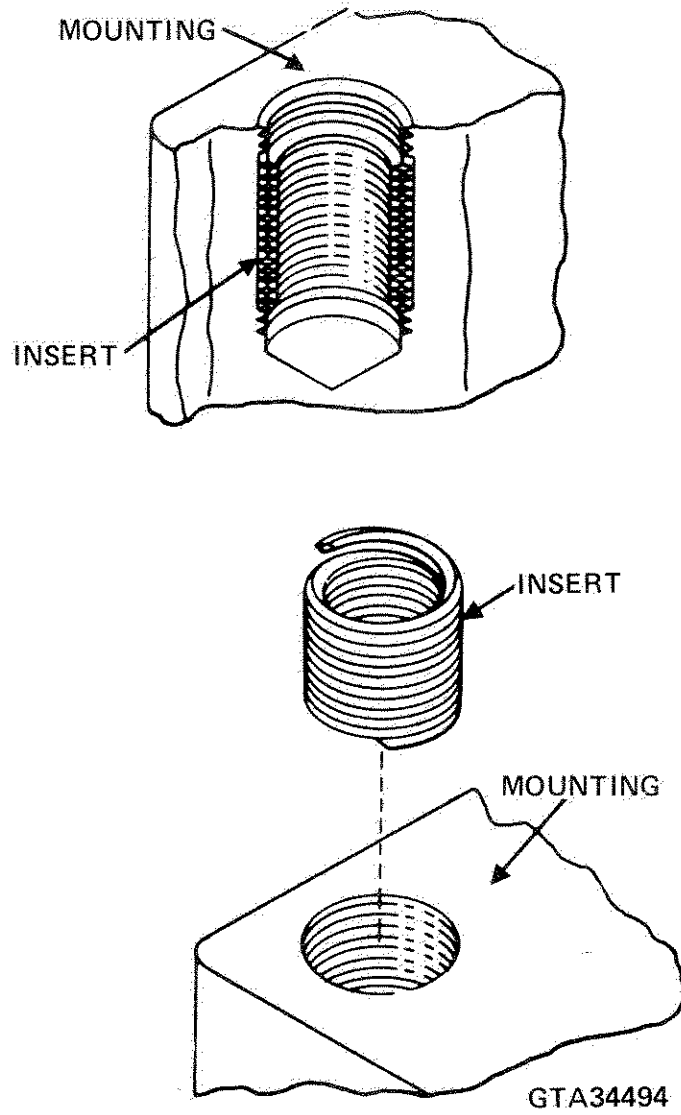
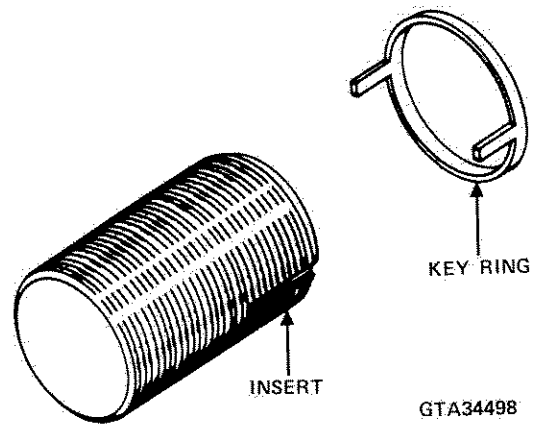

Figure 6-16. Helical (Heli-Coil) Screw Thread Insert
Figure 6-17. Locking (Kelox) Screw Thread Insert
a locking collar and a separate serrated locking ring. The Heli-Coil insert (Figure 6-16) is a single-piece, single-wire insert. The Kelox insert (Figure 6-17) consists of a key ring and a threaded insert. Removal and installation is provided for Rosan inserts in paragraph 6-6.10 below. Heli-Coil inserts are described in paragraph 6-6.11 below. Kelox inserts are described in paragraph 6-6.12.
6-6.11 Helical (Heli-Coil) Screw Thread Insert. (Figure 6-16).
6-6.12 Kelox Screw Thread Inserts. (Figure 6-17).
1. Drill out the top of insert (Figure 6-17) to the depth of the keys on key ring.
- a. Screw insert (Figure 6-17) into the hole until the top thread of the insert is below the bottom of the thread relief.
- b. Place the key ring (Figure 6-17) upside down in the thread relief and screw the insert out until the top is flush with the inverted key ring.